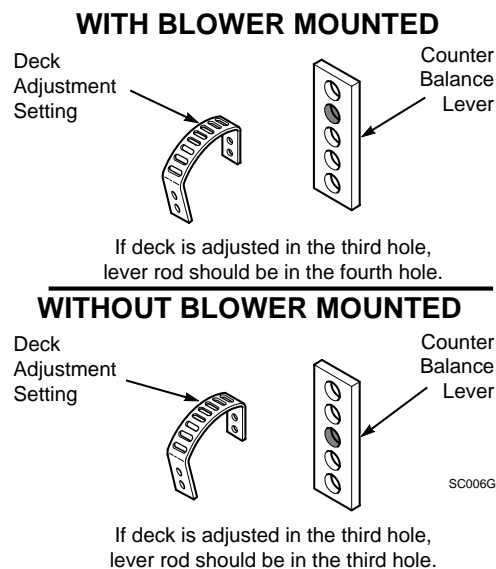

Figure 3
- Mount the counter balance bracket (P/N 421345) to the front of the kick plate by removing the two right side dash panel bolts and far right hinge panel carriage bolt. Use two (2) 5/16 x 3/4" serrated flange bolts and one (1) 5/16 x 1" carriage bolt with a 5/16" flange nut. Secure the counter balance bracket to the kick plate.
- Mount the counter balance rod (P/N 44093) to the spring so that the hook faces the rear of the machine. With the counter balance lever in a horizontal position, slide the rod into the proper hole in the lever. See Figure 3. Pulling up on the lever, hook arm on the bolt in the top tab. The proper hole depends on where the deck height is set.